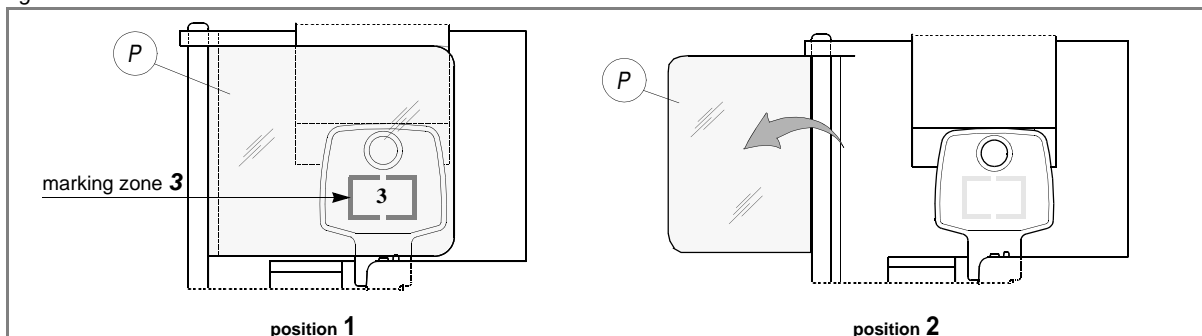

Fig. 18
WARNING: for tracking, always place the glass slide (P) over the key, otherwise the shiny surface of the key will prevent good visibility of the projected area (fig. 18 - position 1). When the tracking operation has been carried out, the glass slide (P) must be returned to position 2.